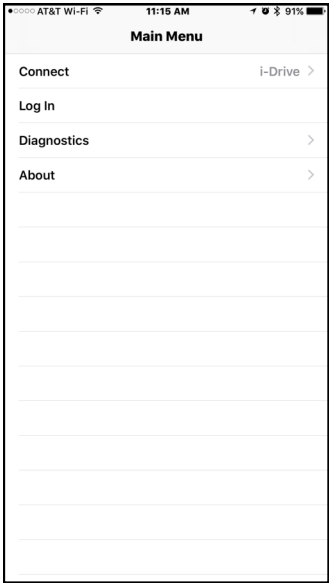

Figure 3
- 4. When the Main Menu reappears, select Connect on the screen. (Figure 3)